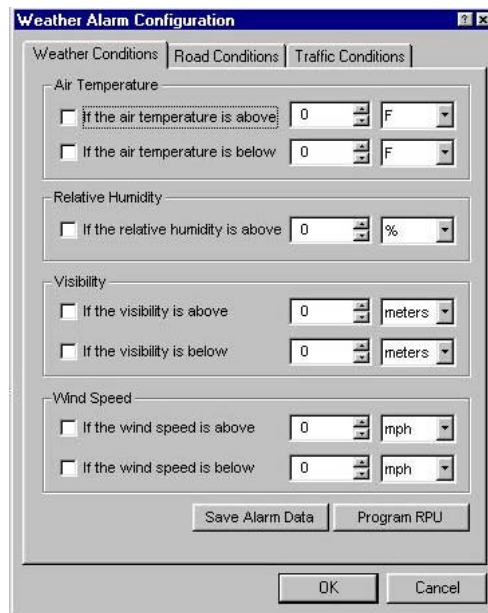

Figure 3.22 Weather Conditions Alarms
1. Using the mouse select the Weather Conditions Tab from the menu(ref. to fig. 3.22).